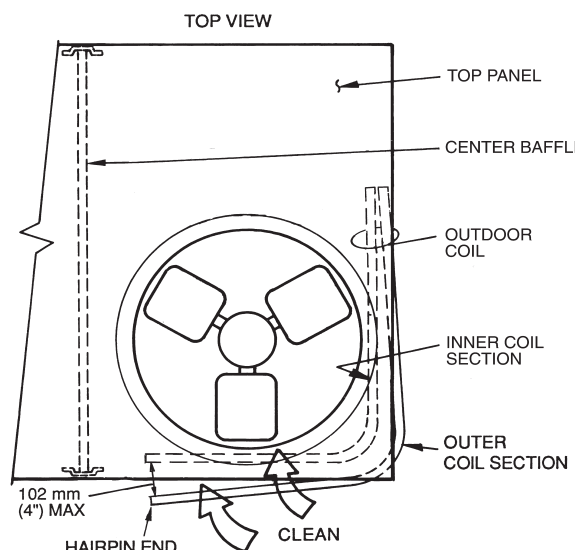

Fig. 12 – Separating Coil Sections
4. Remove device holding coil sections together at return end of condenser coil. Carefully separate the outer coil section 3 to 4 in. from the inner coil section. (See Fig. 12.)